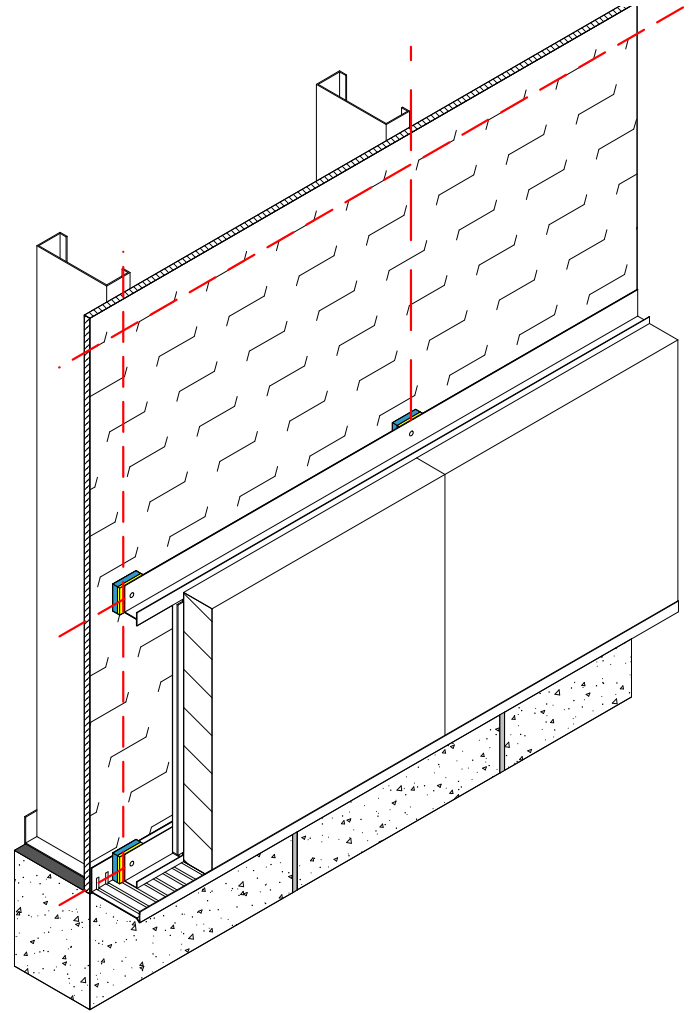

Figure 14 - Insulation Application
1. Repeat figure 14 with additional intermediate tracks